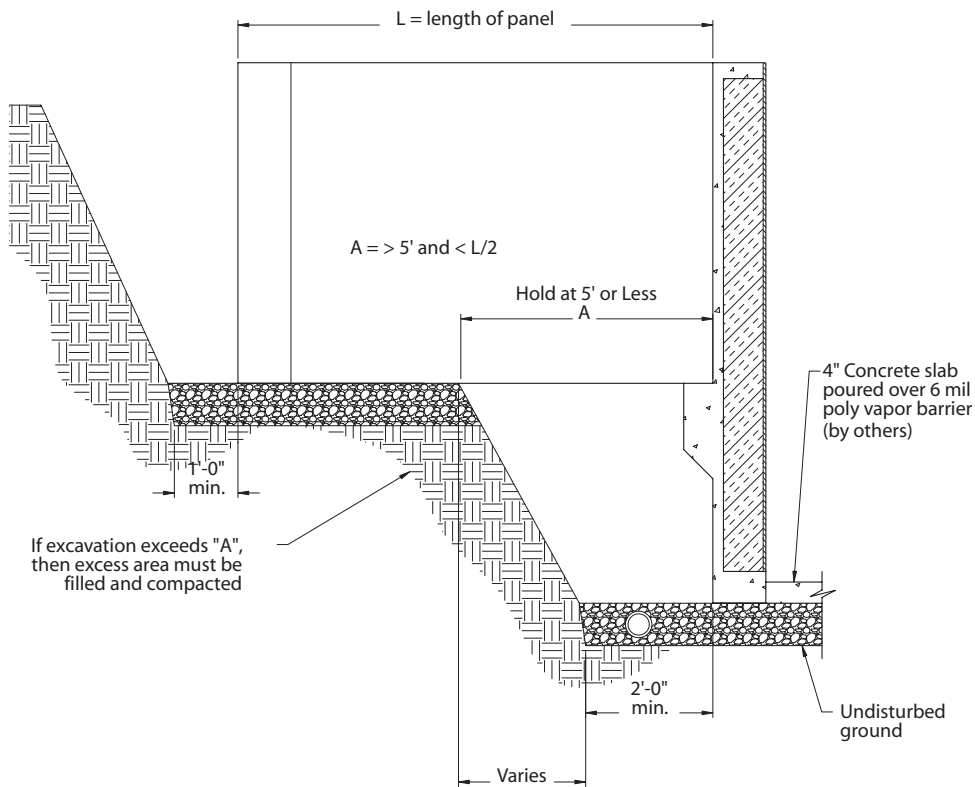

Figure 9
c) Garage Wall Haunch Connections (see figure 9, Pg. 13)